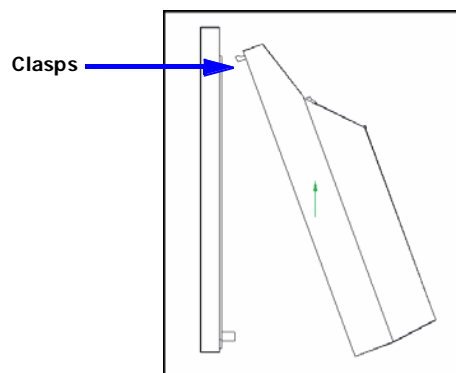

Figure C-9 Lower the Terminal onto the Mounting Plate
10. After the mounting plate is anchored to wall, hold the terminal upright at a 45 degree angle and push the clasps downward onto the top of the mounting plate, an example of which is shown in **Figure C-9**.